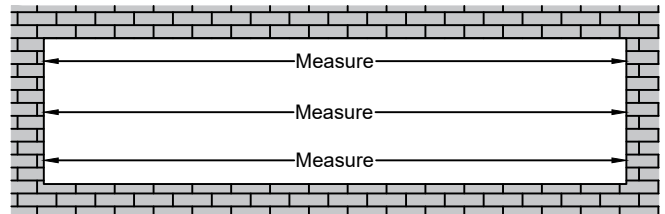

Fig.23.2
- B. Measure the width of the opening at the top, middle, and bottom. Select the smallest of these dimensions and subtract the left and right caulk joint width per approved shop drawings ($\frac{1}{4}$ " min caulk joint at each jamb). **SEE Fig.23.2.**